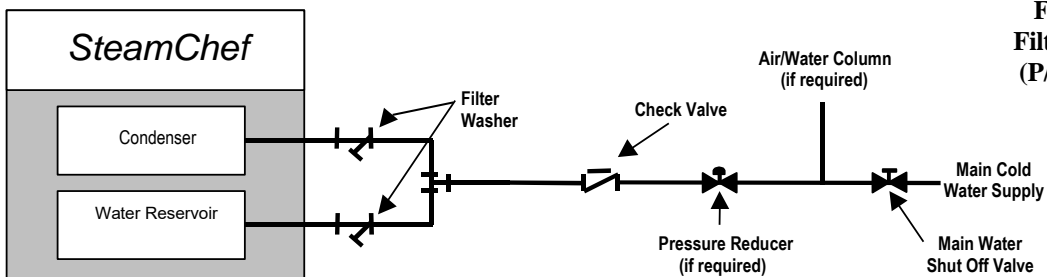
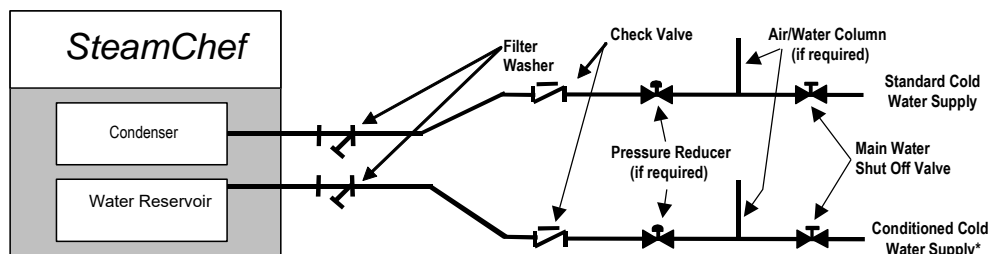

Figure 3-4 Cleveland Range Single Water Supply Arrangement
Figure 3-5 Cleveland Range Separate Water Supply Arrangement
- If the water supply meets requirements shown in the Warranty then the Single Water Supply Arrangement shown in Figure 3-4 may be used.
- e. If the water supply fails to meet the requirements shown in the Warranty then use the Separate Water Supply Arrangement shown in Figure 3-5.
- 5) Cleveland Range recommends the plumbing layout in either Figure 3-4 for installations using a single water supply or Figure 3-5 if a separate conditioned water supply is used for the water reservoir feed.
- Use two (2) 3/8" supply lines for a separate conditioned water supply.
- Use one (1) 1/2" supply line for a single water supply. Use the Single Point Water Connection Kit (cold water supply splitter) (P/N 111009).
11. Refer to Figure 3-5: Connect the drain.